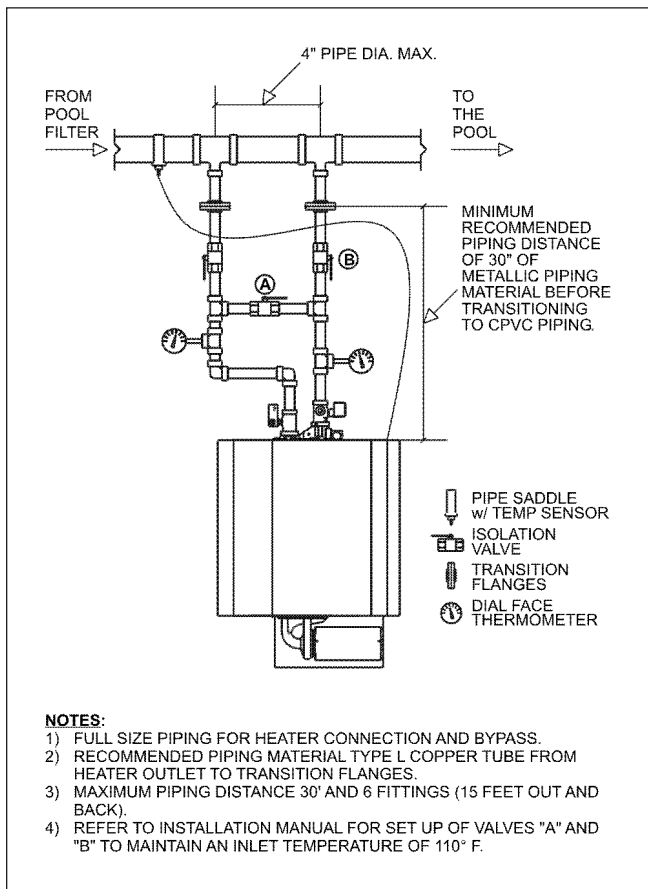

Figure 10. Heater Piping Arrangement.
In addition to the bypass valve “B” and outlet valve “A” shown in Figure 10, an inlet valve “C” should be provided so that the heater can be readily isolated for service. All valves should be butterfly or ball style, not gate valves. For spas application see Section 3.9.
All MT series boilers, 500-1825 models, must be installed with bypass piping. Please use Figure 10 as your guide to plumb the bypass. For spas see Section 3.9.
All models are supplied with integral pumps. These pumps are sized for the pressure drop through the heat exchanger, 30' of piping, and through the bypass piping as shown in Figure 10.
All models must be installed in the primary/secondary arrangement shown. The boiler loop piping must tee into the filter loop piping with the inlet and outlet connection spaced a maximum of 4 pipe diameters apart (see Figure 10).
A temperature sensor with 15 feet (5m) of cable and an immersion well assembly are supplied with the boiler. These must be installed in the field. Refer to Figures 10 through 11.
of the boiler inlet tee as close to the boiler as possible (see Figure 10). **DO NOT INSTALL in boiler loop piping or downstream of the boiler inlet tee.**
(Reference Figure 10)
- Since outlet temperatures can approach 140°F (60°C) units **must** be piped in a Primary/Secondary style similar to that shown in Figure 10.